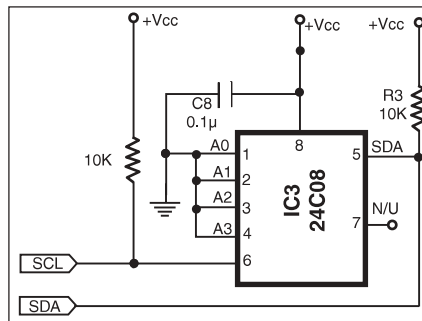

Fig. 5: Non-volatile memory
**Non-volatile memory (Fig. 5):** 2-wire serial CMOS EEPROM 24C08 is used in this circuit to retain last 99 incoming numbers. Numbers stored remain in memory even after power failure. 24C08 is an 8k (1024x8) bits non-volatile memory. 8k bits are internally